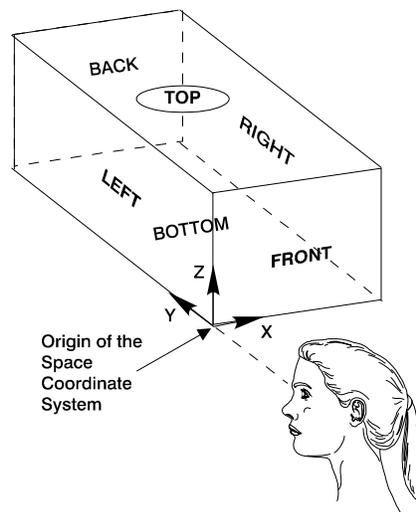

Figure 14 The faces of a BOX in the space coordinate system
- BOX** indicates that the SPACE is box-shaped. In this case, values must be given for the box dimensions HEIGHT, WIDTH, and DEPTH. AREA and VOLUME should not be entered. The advantage of using SHAPE=BOX is that the walls of the space can be easily positioned on the faces of the box by using LOCATION=TOP, LOCATION=RIGHT, etc. in the EXTERIOR-WALL, INTERIOR-WALL, and UNDERGROUND-WALL commands (see Figure 14).